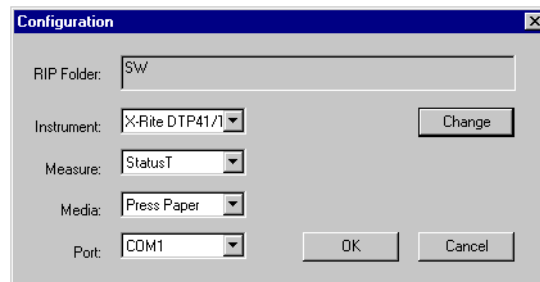

Figure C.1 Configuration dialog box
1. Choose **File > Configure** to display the Configuration dialog box, as shown in Figure C.1.
The default is the relative path to the `SW` folder of the the RIP with which Genlin is supplied (as shown in Figure C.1).